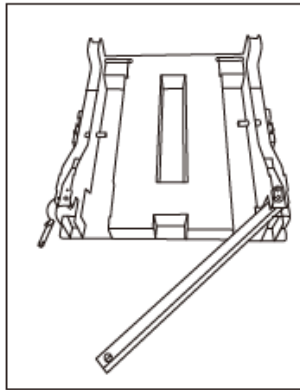

Fig 1
2. If loading a 51" SIMpull™ Reel, ensure the 51" pin (6) is installed into the 51" pin location prior to loading the reel onto cradle.
3. Pull pin (5) and swing cross bar weldment away to allow access for SIMpull™ Reel to roll onto cradle (Fig 1).